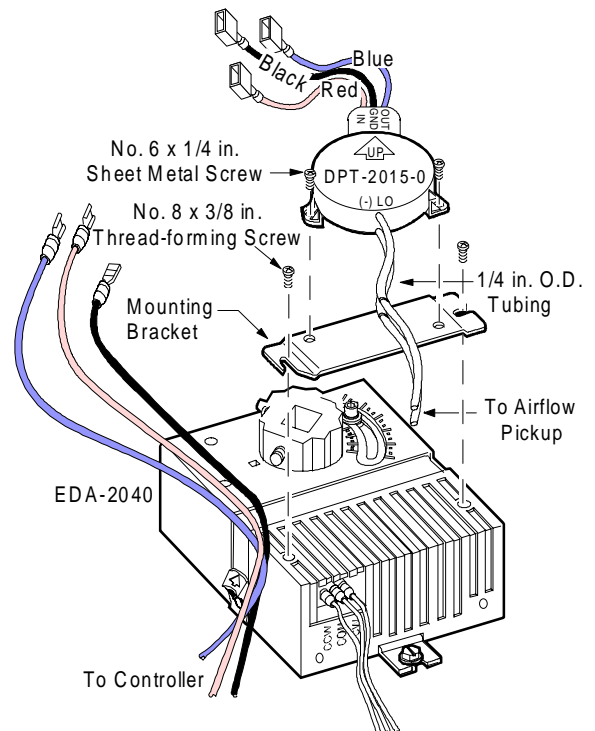

Figure 2: Installing the DPT-2015-0 Using the DPT-2015-MNT
4. Attach the DPT-2015-0 to the mounting bracket with the two No. 6 x 1/4 in. sheet metal screws. (See Figure 2.)
5. Mount the bracket to the mounting holes on the EDA-2040 actuator with the two No. 8 x 3/8 in. Plastite thread-forming screws. (See Figure 2.)